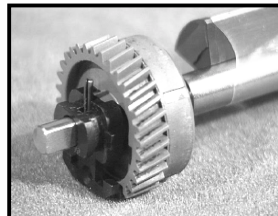

Figure 9
- The OPC contains a full axle rod with a fixed magnet. The magnet aids in the transfer of toner to the OPC. At the “D” shaped end of the axle there is a coder pin. The coder pin and the flat side of the axle hold the magnet in the correct position for proper toner development (fig. 9).